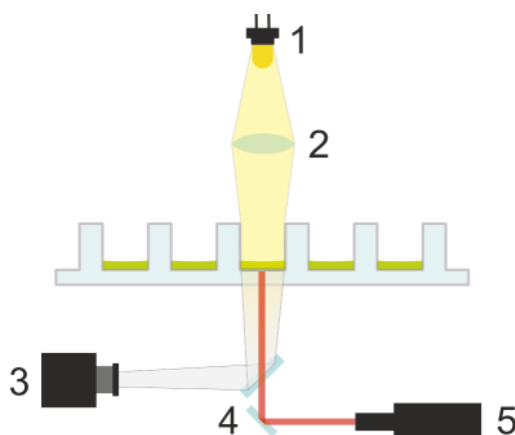

Figure 26: Cell counting optics
2. Empty the cell chip adapter and carefully remove the springs installed on the inside of the adapter lid (see Figure 26: Cell counting optics).